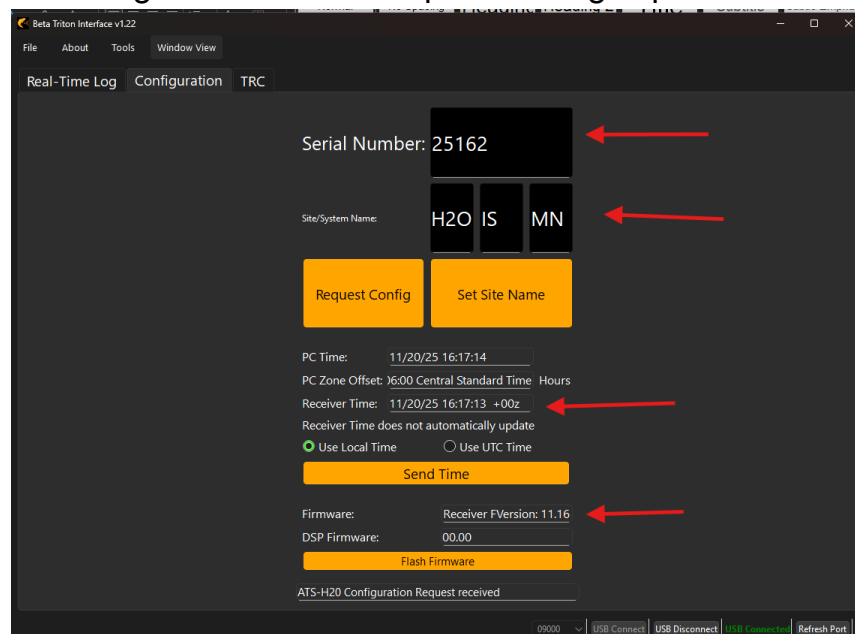

Figure 11 After Request Config has been pressed
Step 6) After clicking through the two pop-ups and waiting ~15 seconds. The receiver *should* have updated the receiver settings. To confirm this, delete the Site Name (click on boxes and use backspace key). Press send time to update the receiver's time. Then hit Request Config. Verify a similar output to Figure 11. If nothing gets populated, press the Request Config button again.